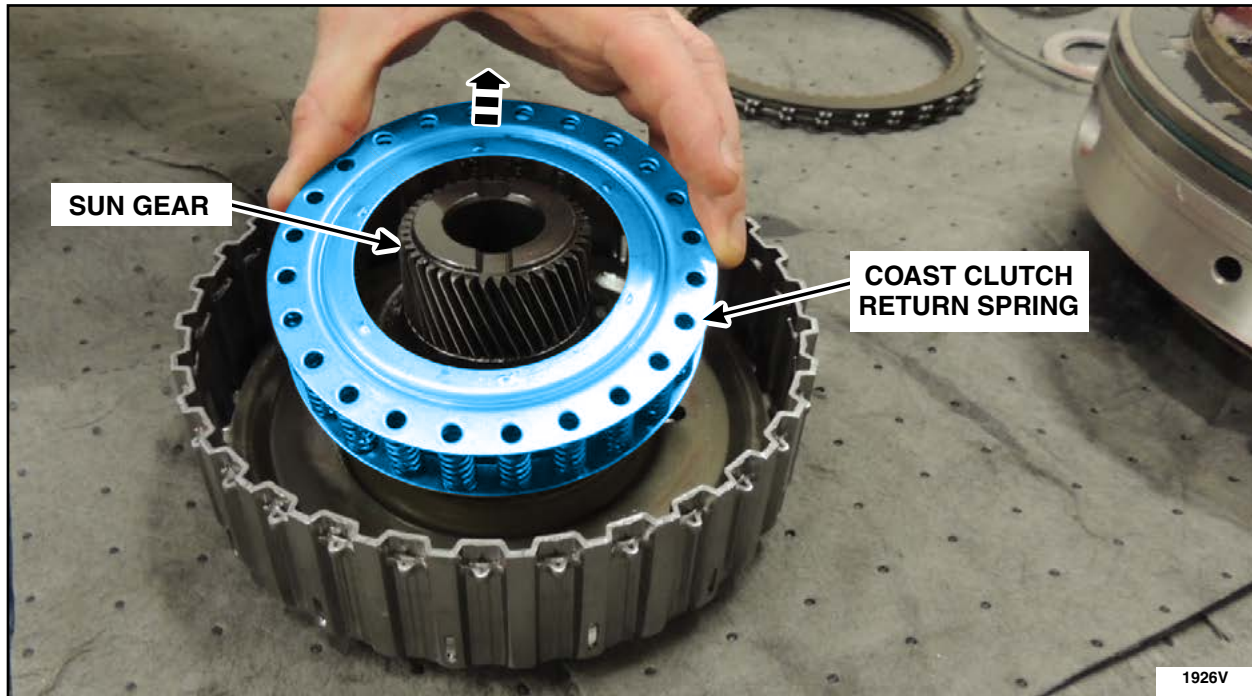

FIGURE 22
20. Remove the Clutch Spring Compressor Aligner and Clutch Spring Compressor, then remove the coast clutch return spring. See Figure 22.